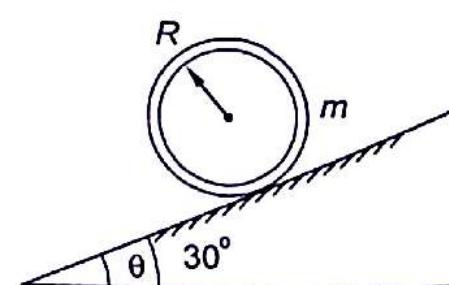

Fig. 17.15
- 17.2** A hoop of mass m and radius R is rolling down on inclined plane without slipping. Angle of inclination of plane is 30° . What is linear acceleration of center of hoop (Fig. 17.15)?